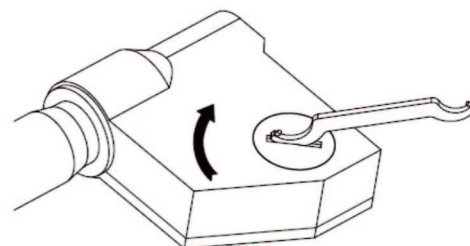

fig. 3
- » Return the battery cover and secure it by rotating it clockwise (fig. 3).